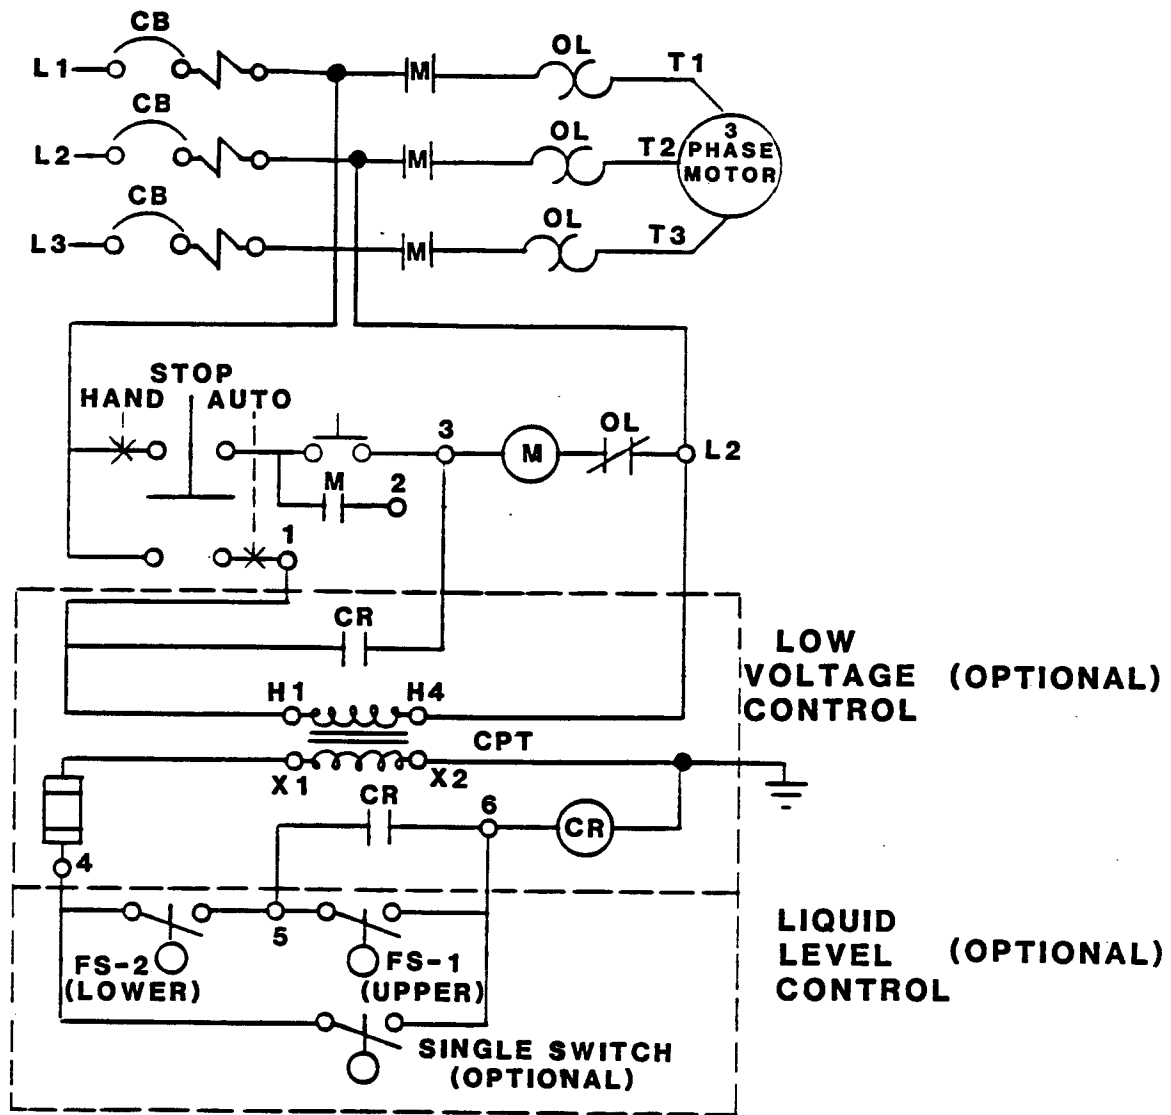

Figure 8. Magnetic Controller Elementary Diagram
- a. Measure the incoming voltage across lines (1 & 2, 2 & 3, and 1 & 3.) while the pump is **operating at full capacity**. See Figure 7 on page B-14 or Figure 8 on page B-15..
Connect the pump power cable to the control box as shown in Figure 7 on page B-14 or Figure 8 on page B-15.. Use conduit or cable clamps to secure the power and accessory cables to the control box. Make certain that all connections are tight and that cable entry points are rainproof.